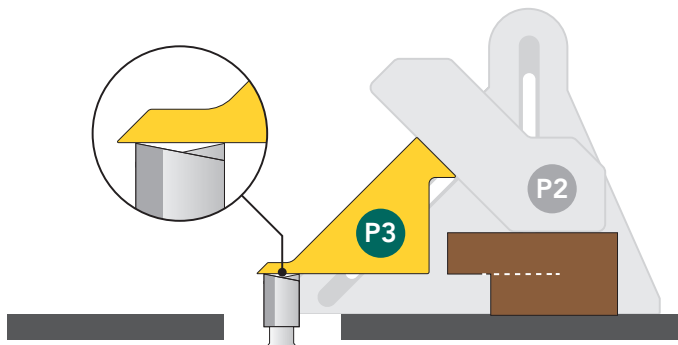

Fig 2a - Router bits
- B.3.** Adjust the height of the router bit until the cutting edge touches the bottom of P3 [Fig 2a].